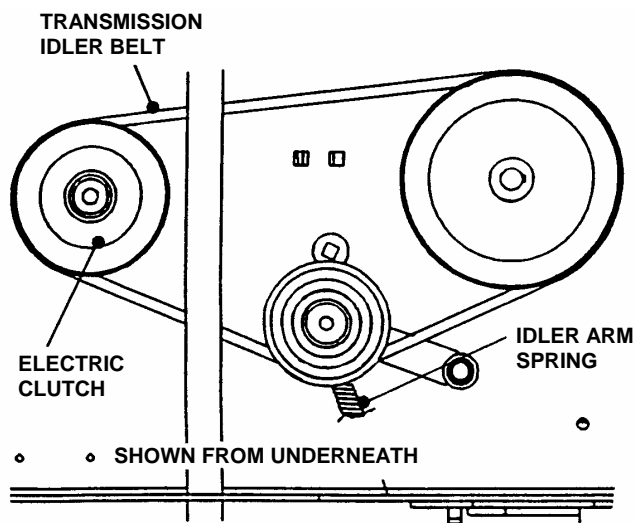

FIGURE 7.1
3. Reconnect idler arm spring. See Figure 7.1.